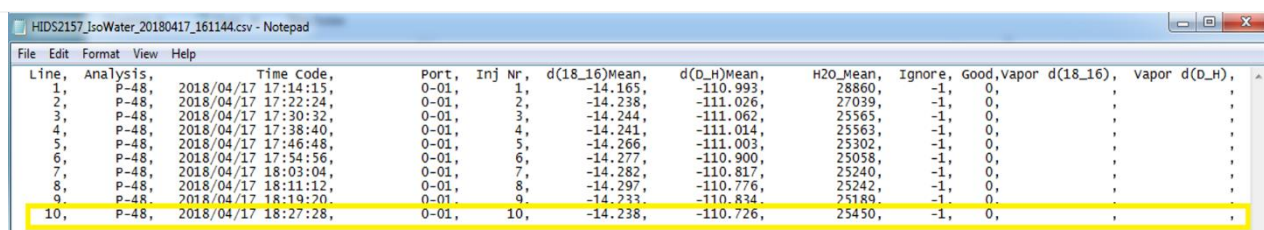

Figure 190. IsoWater .csv file Open in Notepad Highlighting Last Validation Run.
STEP 4 | In the most recent *.csv IsoWater validation file, the last line indicates the last time the Autosampler Control program GUI ran. Reference **Figure 190** as an example. Be aware that a new file is generated each time that the injections are started.